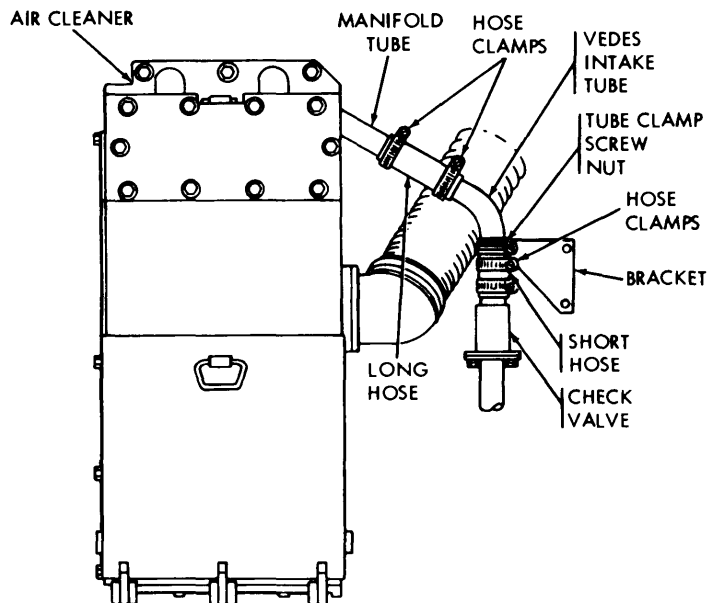

Figure 6-14. VEDES intake tube and hoses replacement.
- a. VEDES Intake Tube and Hoses Replacement (*Fig. 6-14*).
- (1) *Removal*